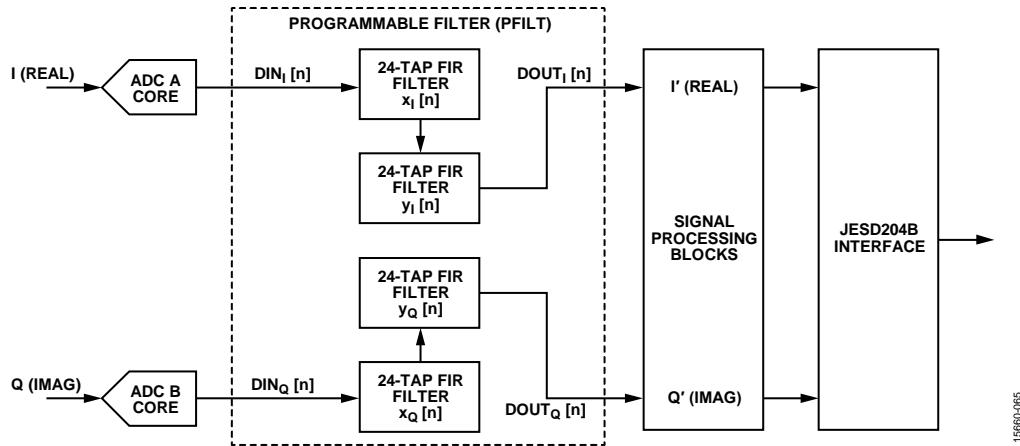

Figure 94. Real, Two Cascaded, 24-Tap Filter Configuration
- Real set of two cascaded 24-tap filters for each I/Q channel (see Figure 94)